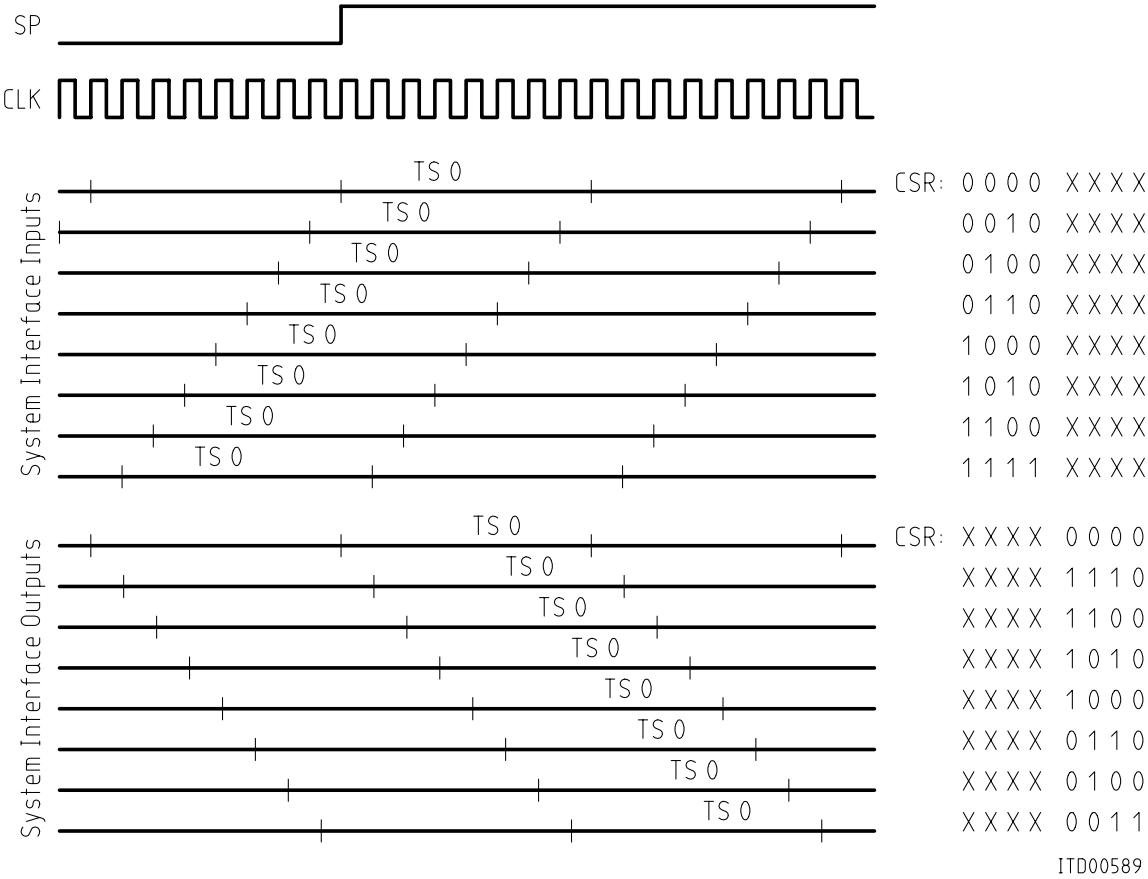

Figure 21
- RS2 ... RS0 ...** **Receive** clock **Shift**, bits 2 – 0. The receive data stream is shifted in bit period steps as shown in **figure 21**.
- RRE ...** **Receive** with **Rising Edge**. The data is sampled with the falling (RRE = 0) or rising edge (RRE = 1) of the data equivalent clock (**see figure 21**).
- XS0 ... XS2 ...** **Transmit** clock **Shift**, bits 2 – 0. The transmitted data stream is shifted as shown in **figure 21**.
Data stream manipulation according to these register entries only affects the system interface and only in the primary access configuration. The frame structure can be moved relative to the SP slope by up to 7 clock periods in half clock period steps. This register can hold non-zero values only for a CFR:CFS value of logical 0. **Figure 21** illustrates the clock shifting facility.